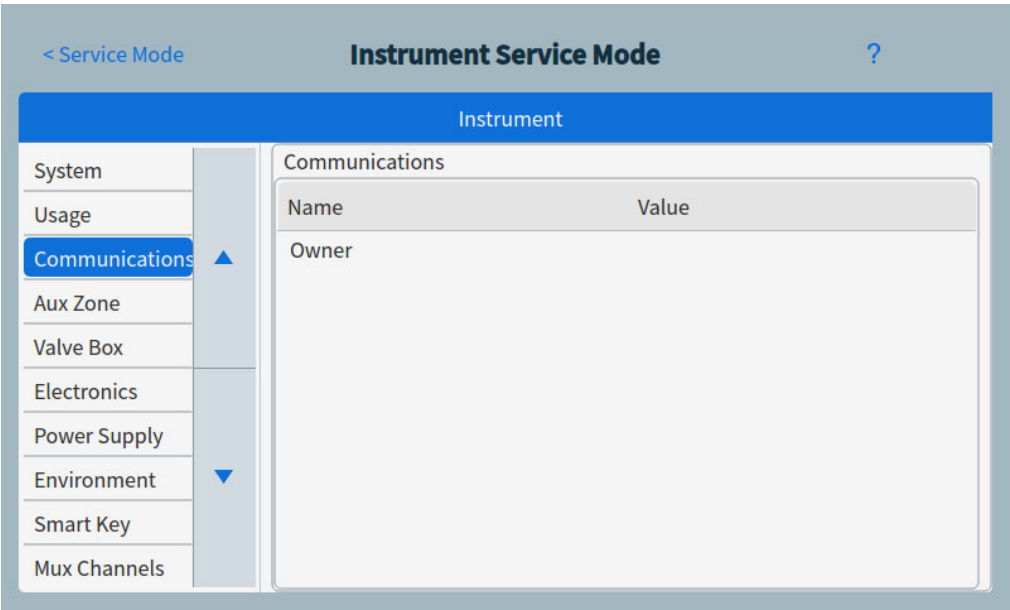

Figure 52. Instrument Service Mode page
- 1 Select the desired component type. The Service Mode page for the selected component appears. See **Figure 52**.